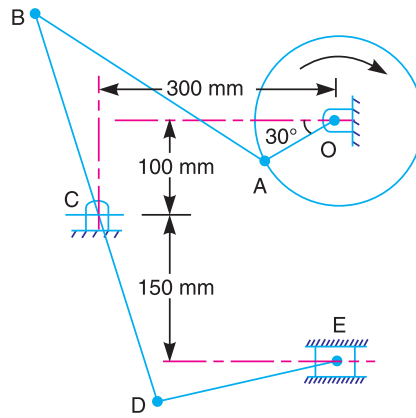

Fig. 8.40
5. In a mechanism as shown in Fig. 8.40, the crank  $OA$  is 100 mm long and rotates in a clockwise direction at a speed of 100 r.p.m. The straight rod  $BCD$  rocks on a fixed point at  $C$ . The links  $BC$  and  $CD$  are each 200 mm long and the link  $AB$  is 300 mm long. The slider  $E$ , which is driven by the rod  $DE$  is 250 mm long. Find the velocity and acceleration of  $E$ .